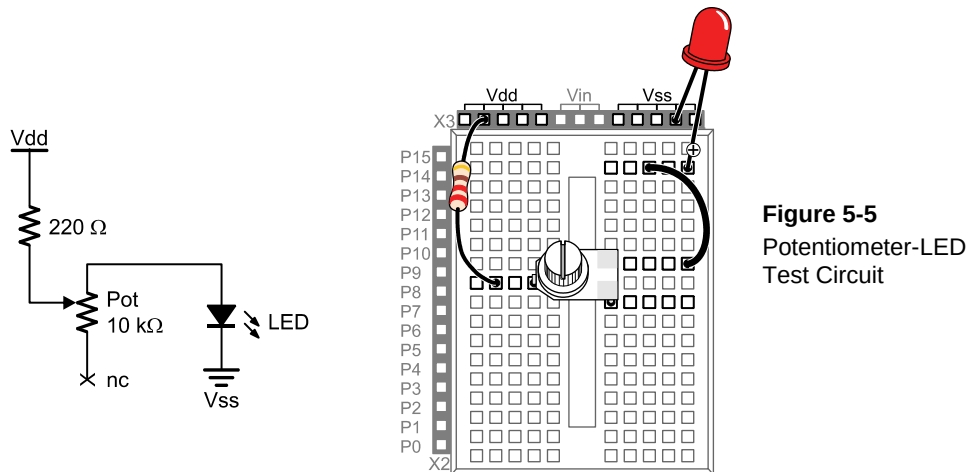

Figure 5-5
Figure 5-5 shows a circuit that can be used for adjusting the LED's brightness with a potentiometer.
- ✓ Build the circuit shown in Figure 5-5.